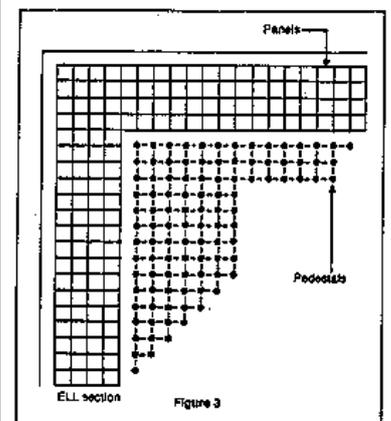

Figure 3
**STEP 8.** Beginning again at the start point, lay four rows of panels along the longest wall. Check to see that you are staying on control lines, and that panels do not rock. (See figure 3.)
**STEP 10.** After laying the first four rows of panels along the long wall, begin again at the starting point and lay four rows of panels perpendicular to the first rows. (See figure 3.) Follow the same previous steps (8 through 9) for laying panels and be sure to follow the control lines. If you do not stay on the control lines, the floor will not be square and your grid lines will not be straight. After laying in the ELL section, check and re-check to be sure it is square. When you are certain the ELL is square, continue to install rows until the ELL becomes a rectangle or square. While you are laying panels in this area, you should have someone spreading, shooting, leveling and preparing the next adjacent area for panels.